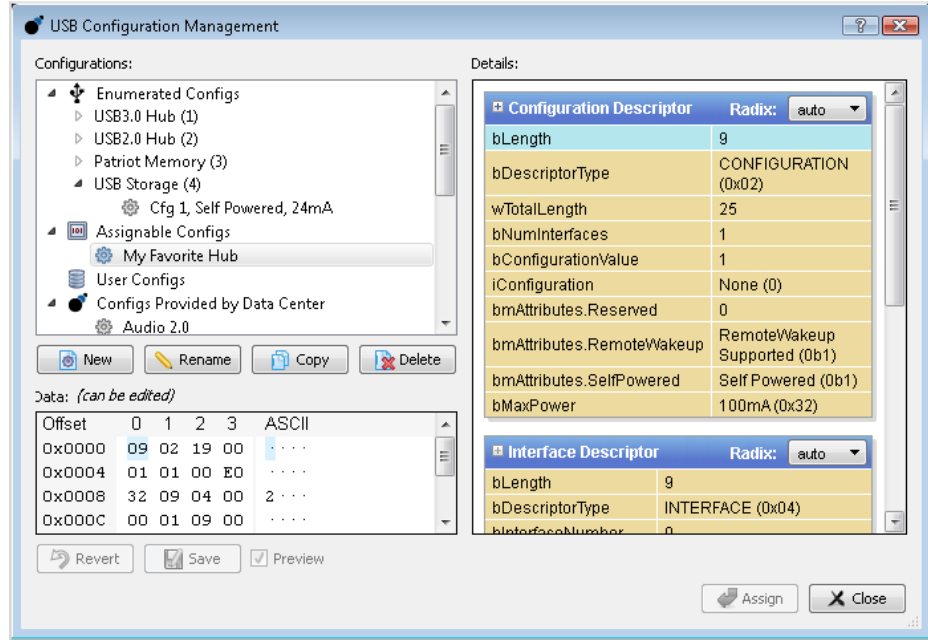
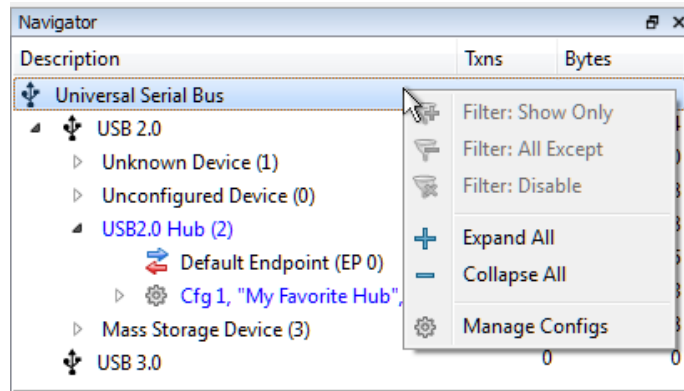

Figure 87: USB Configuration Management Window
Figure 88: Access the configuration management interface through the **Bus Pane** context menu.
These functions are provided through the **Configuration Management Window** (Figure 87) and the **Bus Pane**'s right-click context menu (Figure 88) through which the window is accessed.
1. Right-click on any Bus, Device, or Configuration in the **Bus Pane** (Figure 88).
2. Click **Manage Configs** to open the **Configuration Management Window** (Figure 87).
1. Right-click on the device of interest in the **Bus Pane** (Figure 88).
2. Click **Manage Configs**. This will open the **Configuration Management Window** (Figure 87).
1. Right-click on the configuration to remove in the **Bus Pane** (Figure 88).
1. Right click on the target device in the **Bus Pane** (Figure 88).